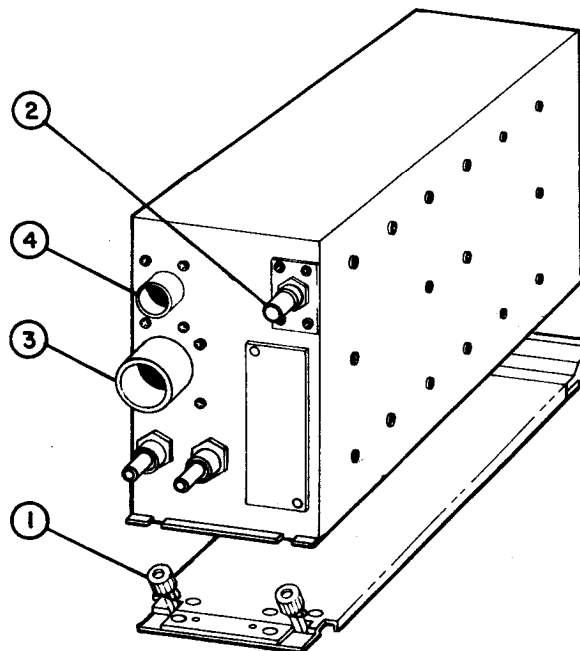

Figure 3-5. Receiver-Transmitter, Connectors and Mounting Hardware
1. Refer to figure 3-5. Loosen the two fluted nuts (1) securing the receiver-transmitter.
2. Remove cable connectors from J9732 (2), J9733 (3) and J9731 (4).
1. Refer to figure 3-5. Place the receiver-transmitter in its mounting location.
2. Attach cable connectors to J9732 (2), J9733 (3) and J9731 (4).
3. Tighten two fluted nuts (1) to secure the receiver-transmitter in its mounting location.